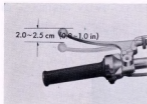

Fig. 32
1. There should be 2.0—2.5 cm (0.8—1.0 in) of play at the end of the clutch lever before the clutch begins to disengage. (Fig. 32)